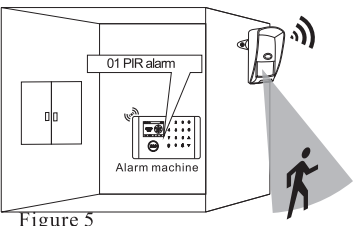

Figure 5
- At the far end of the covered area, perform transverse movement within the detection scope with the speed of 1 step/second from any direction (about 0.75m/s). The protect will alarm after detecting and the LED light is on for 3 seconds (shown in figure 5)